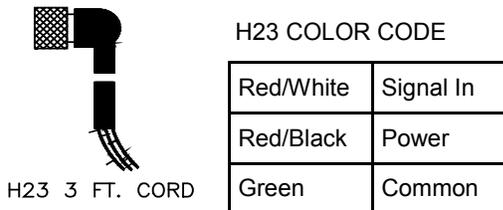

Figure 5
3. If another source of transducer is used, H23 cable must be ordered to facilitate connection of that source to the GP2. (Figure 5)